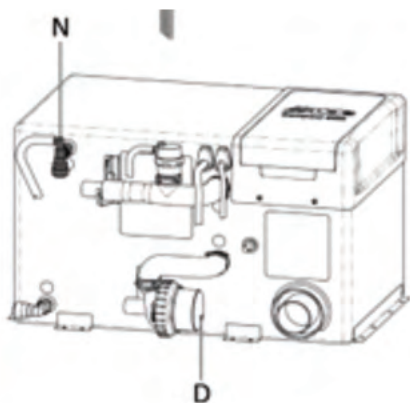

Fig 2
Check that the breather valve (Fig.2 [N]) is allowing air to enter the hot water cylinder when it is being drained, and that the clear plastic hose is not obstructed.
- Set the 12v inline circulation pump on the side of the boiler to speed 5 (Fig.2 [D]): by turning the blue speed dial clockwise, on the face of the pump motor. NB: Speed is not adjustable if using the 12v circulation pump fitted in the expansion tank.
The Alde Compact boiler (fig 2) can get hot during operation. Do not place items on or around the Alde Compact boiler unit.